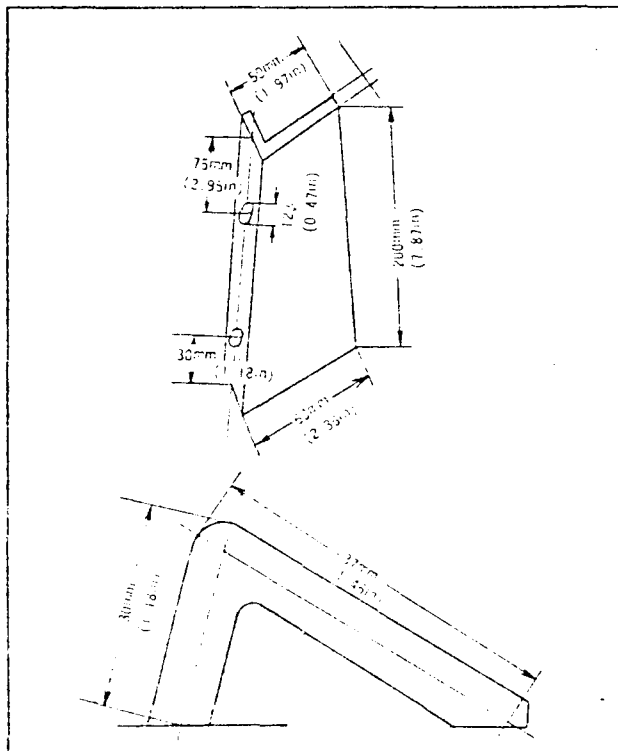

Fig. 4-12 An Example of Foot Step and Knee Support
- (3) The foot step and the knee support can take any form as long as their purposes are met. (An example is shown in Fig. 4-12)